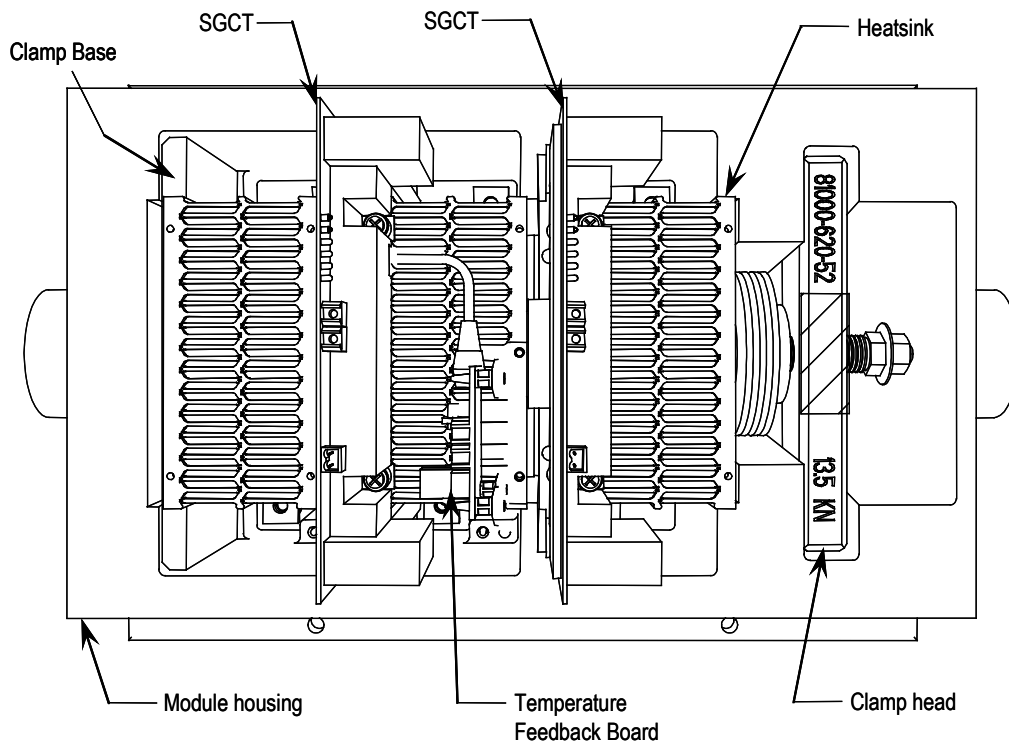

Figure 6.15 – 2-Device PowerCage
4. Remove the device (SGCT or SCR) that is secured to the heatsink with the thermal sensor. (Refer to Figure 6.15., 6.16 or 6.17).